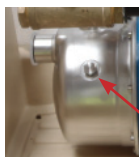

Figure 1.1 Priming Point
- Prime the pump by removing the priming point from the top of pump chamber and allowing the tank water to fill the pump chamber, or by filling the pump chamber with water from an external supply. Once this is done refit the Priming point (see Figure 1.1).